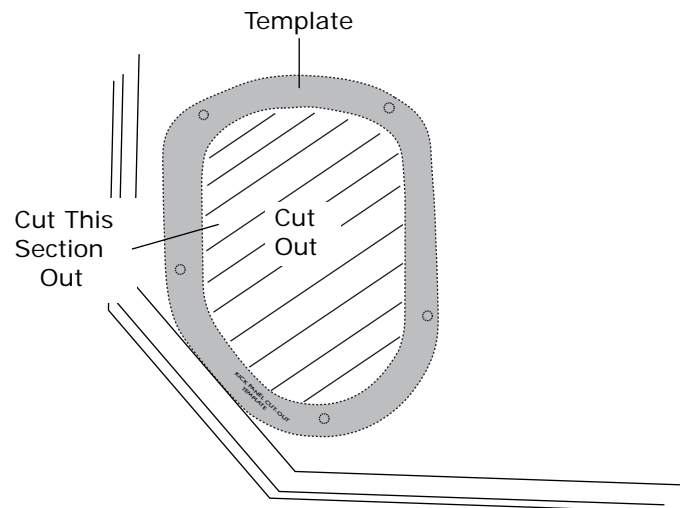

Figure 4a
3. Place template provided on Page 23 onto kick panel as shown in Figure 4a.